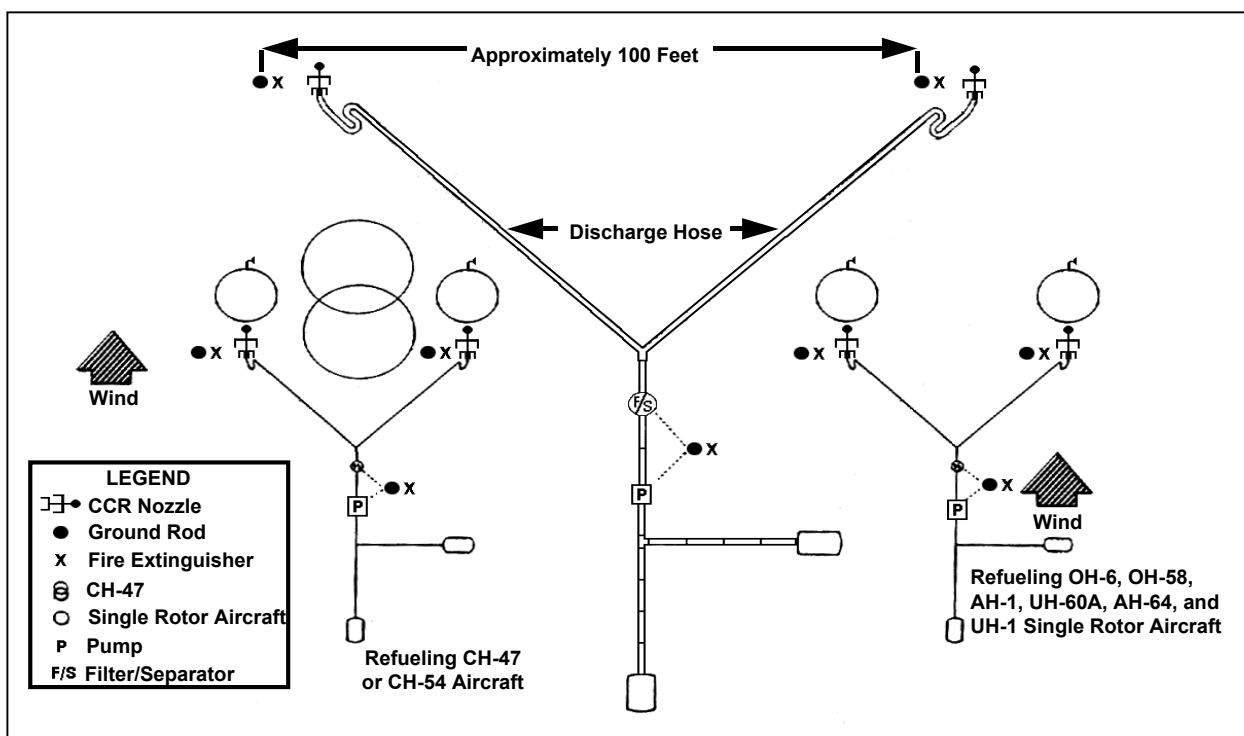

Figure 7-1. Typical FARE layout.
**Layout.** Once all equipment is on-site, ensure that personnel layout the FARE system in the way that is best for the specific situation. Tailor the layout to avoid obstacles, take advantage of terrain features, achieve maximum dispersion, and operate with a restricted amount of space. The only mandatory feature of the FARE system is the spacing between the aircraft (Figure 7-1).